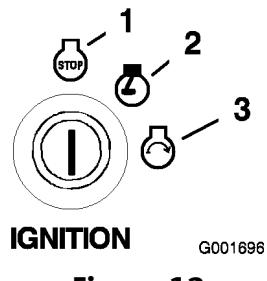

Figure 12
- Turn the ignition key to Start. When the engines starts, release the key (Figure 12).
- Turn the ignition key to the off position and remove the key (Figure 12).